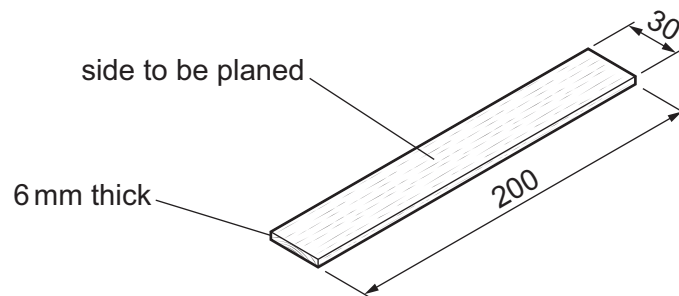

Fig. 10.1
- 10 Fig. 10.1 shows a length of hardwood that needs to be planed. The hardwood is only 6 mm thick and could **not** be held securely in a woodworker's vice.